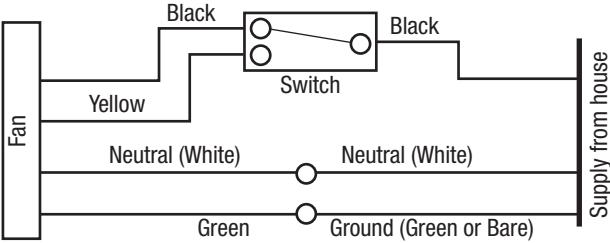

Figure 11
- 4b. Connect the white wire from the house to the white wire from the fan. Connect the ground wire from the house to the green wire from the fan housing (**Figure 11**). Use approved methods for all connections.